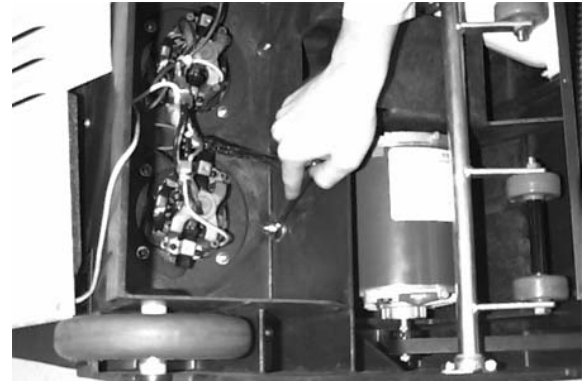

FIG. 14
- To check brush belt tension: Push against belt in center with moderate force. It should deflect no more than 6 mm (0.25 in). If adjustment is required, loosen four screws holding motor in place. Then use a 13 mm wrench to turn motor adjustment nut clockwise until proper tension is attained. Retighten screws (Figure 14).